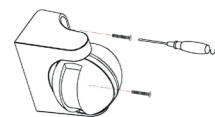

Figure 1
- \* Loosen the screw in the back and unload the bottom (refer to figure 1).